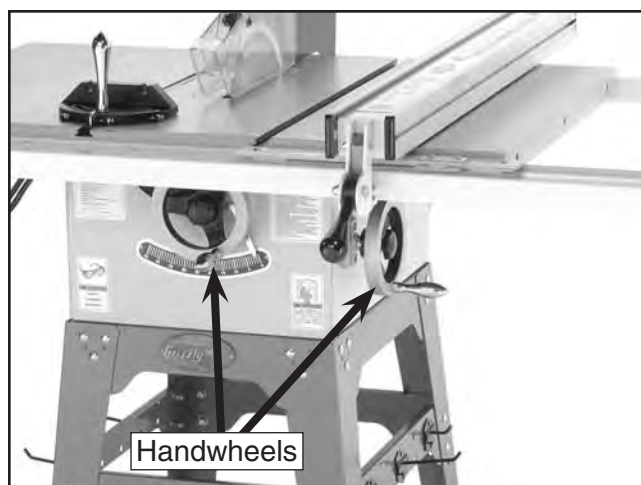

Figure 16. Installed handwheel.
3. Slide each handwheel over the threaded shafts that protrude from the side and front of the saw (**Figure 16**). **Note:** Align the keyway on the back of each handwheel with the roll pin on the threaded shafts.
4. Secure the handwheels to the threaded shaft with the star knobs (**Figure 16**).